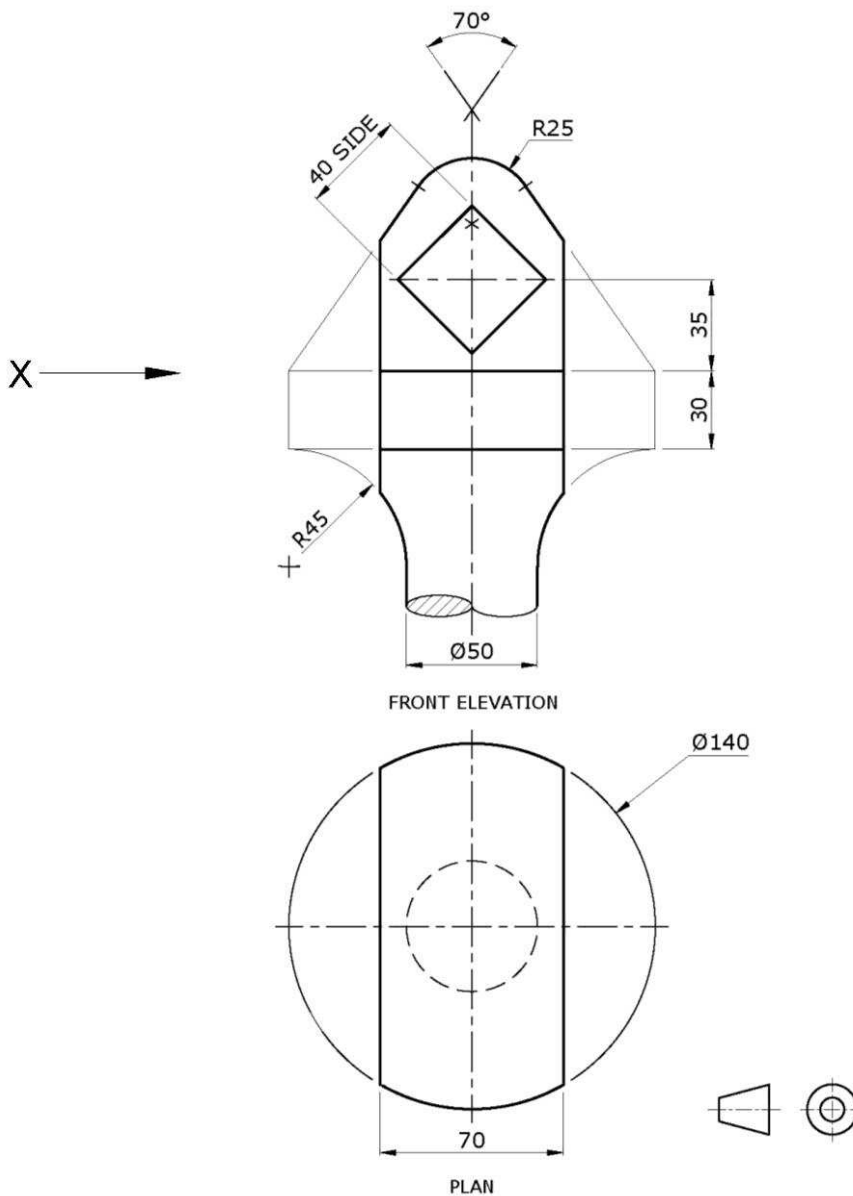

Figure 6b
- a) Draw, full size, the front elevation and the incomplete plan shown in Figure 6b. (4)
- i) the resulting curves of intersection between the solid and the vertical section; (3)
- ii) the outline of the cone as affected by the square through hole. (4)
- c) Complete the plan by showing the curve of intersection between the cone and the through square hole. (9)